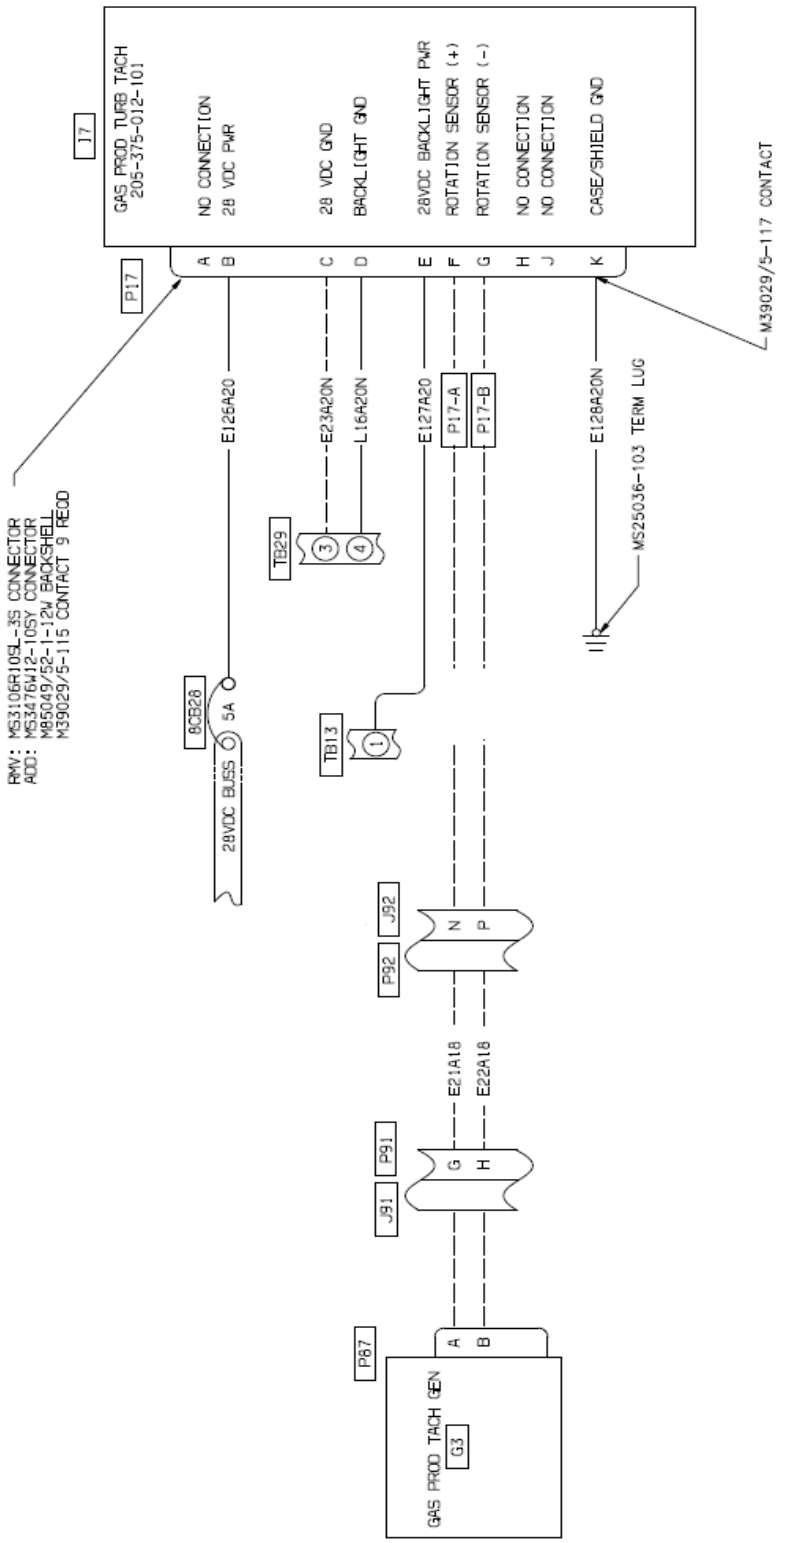

Figure 1
7. Isolate wire L20S20. Disconnect wire LS20S20 from TB13 (1). Discard wire, reinstall TB13 terminal nut.
8. Referencing BHT-ELEC-SPM and Fig 1, install replacement connector P17
9. Referencing BHT-ELEC-SPM and Fig 1, fabricate and install wire E127A20.
10. Access N1 Gas Generator Circuit Breaker (5amp) Referencing BHT_ELEC-SPM and Fig 1 fabricate and install E125A20.